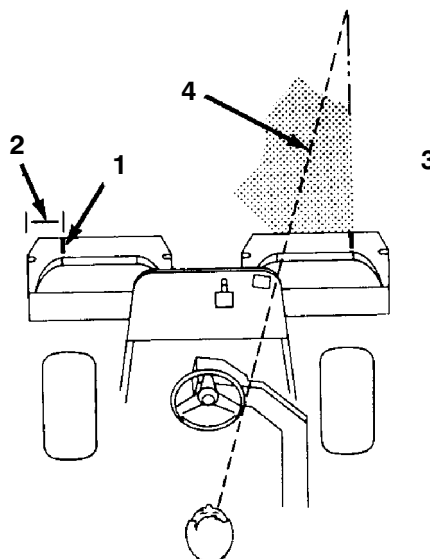

Figure 27
1. Measure in approximately 5 inches from the outer edge of each basket (Fig. 27).
2. Either place a strip of white tape or paint a line onto each basket paralleling the outer edge of each basket (Fig. 27)